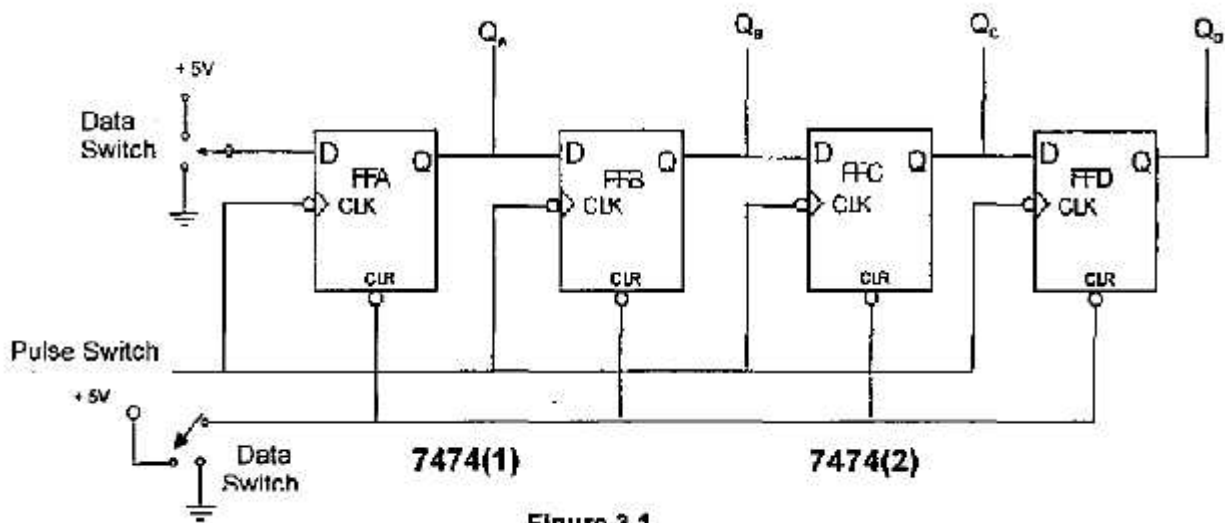

Figure 3.1
Step 1: Assemble circuit as shown in Figure 3.1.